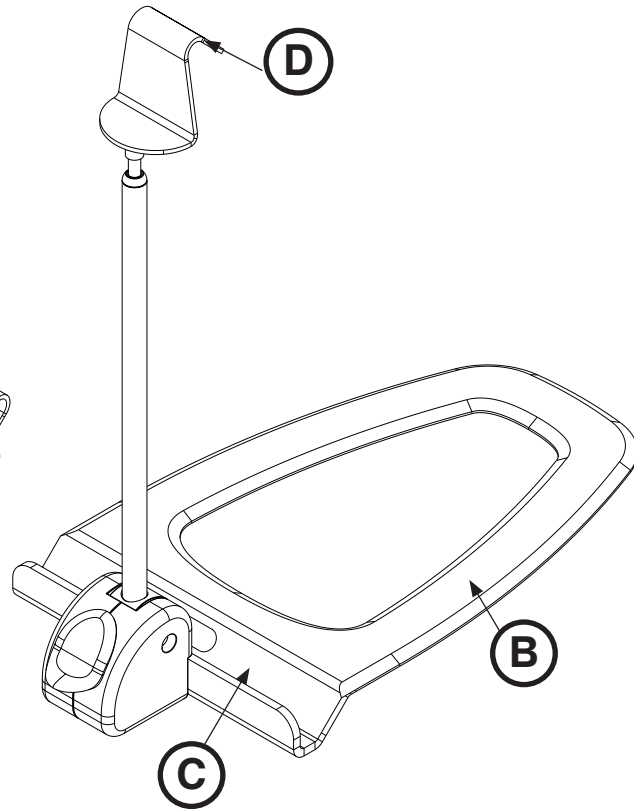

Figure 58: Lateral Cassette Holder
5. Pull up on the cassette hook (D) to adjust the height of the arm to fit snugly over the X-Ray cassette to hold the cassette in place (Figure 58).
6. Pull up on the cassette hook (D) to remove the X-Ray cassette from the lateral cassette holder (Figure 58).